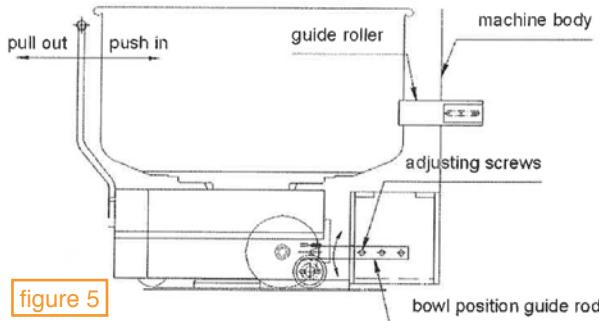

figure 5
- 8.** In this position, we can test degree of tightness of bowl position guide rod. Pull the trolley out of the machine. Repeat as above until the trolley can be pushed in and pulled out easily. And then tighten the adjusting screws of the bowl position guide rod as shown in Figure 5. At last, try to pull out the trolley and push it in again to make sure the trolley can go in and out smoothly.